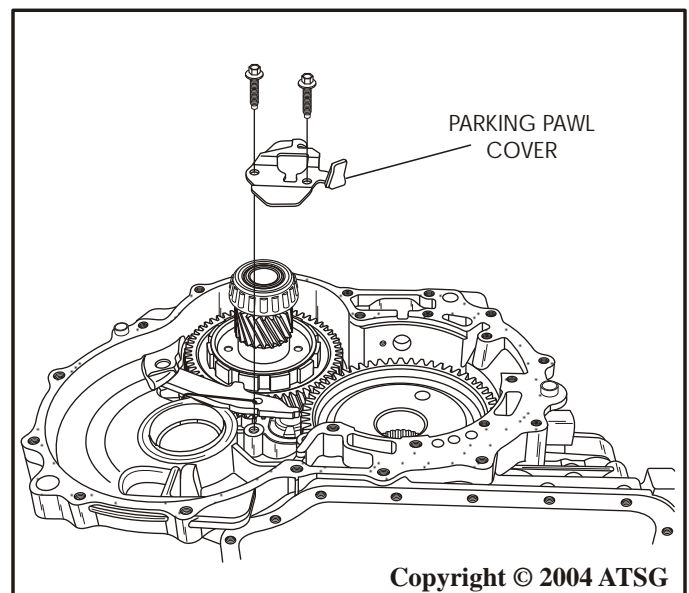

Figure 134
49. Install the parking pawl cover, as shown in Figure 134, install retaining bolts and torque to 13 N•m (10 ft.lb.)